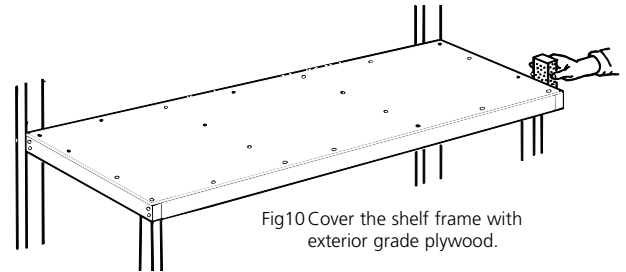

Fig10 Cover the shelf frame with exterior grade plywood.
- Cover the shelf frame with 16mm exterior grade plywood measuring 2100x700mm, screw to the frame members and sand the side and front edges smooth (see fig 10). Your local Magnet Mart store can cut this sheet to size.